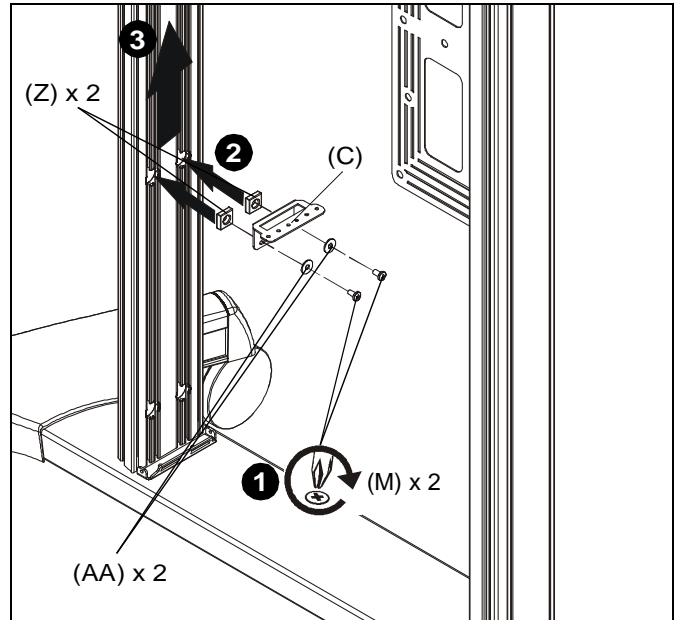

Figure 6
**NOTE:** Vertical rack brackets (C) are intended for use with various types of rack mountable products.
1. Loosely install two #10-24 x 3/8" Phillips head machine screws (M) through two #10 washers (AA), holes in vertical rack bracket (C) and into two #10-24 square nuts (Z). (See Figure 6)
2. Insert two #10-24 square nuts (Z) into two openings on column channel. (See Figure 6)
3. Lift vertical rack bracket (C) to desired mounting position. (See Figure 6)
4. Tighten screws to secure in position. (See Figure 6)